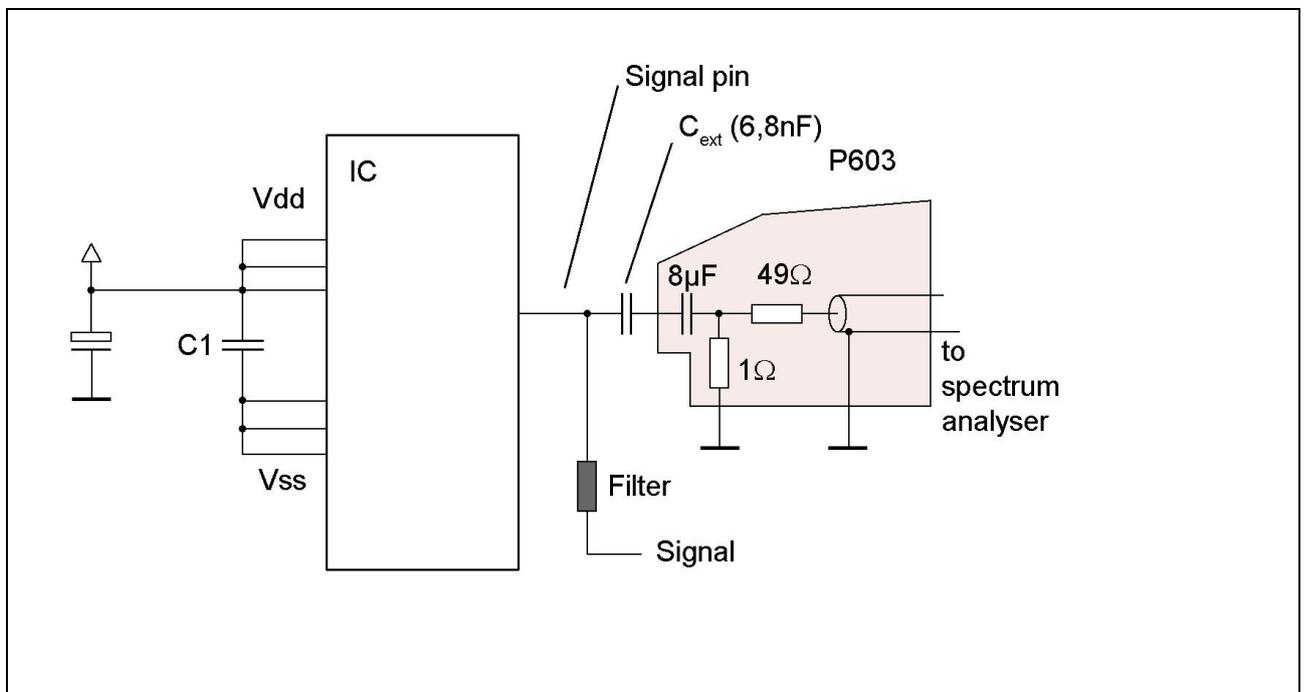

Figure 12: P603, current measurement on a signal pin while this is in operation.
5. Current measurement (**P603**) on a signal pin while this is in operation, **Figure 12**
The external capacitor  $C_{ext}$  can reduce the stress on the signal pin caused by the probe's low impedance (1 Ohm) (**Figure 12**) during current measurements on signal pins. The impedance of the capacitor  $C_{ext}$  should be at least 3 dB smaller than the shunt's 1 Ohm resistance.